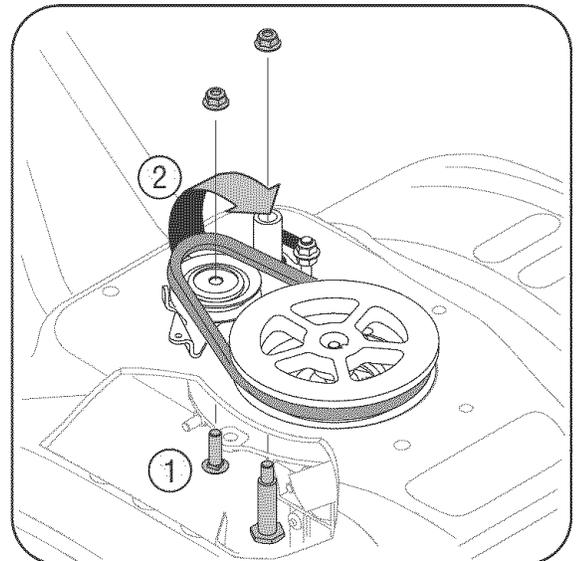

Figure 10 - Replacing the belt.
2. Remove the shoulder screw, carriage screw, and nuts from the idler bracket assembly, Step 1 Figure 10.
3. Unloop the belt from the pulleys, Step 2 Figure 10.